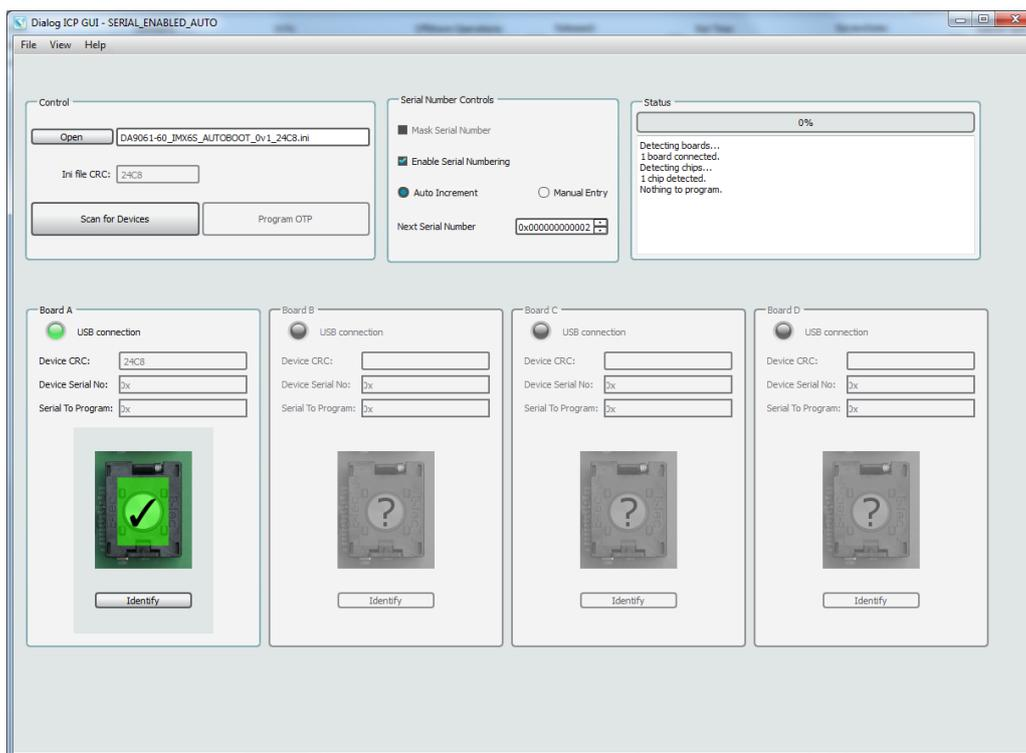

Figure 8: In-Circuit Programmer: Board A Programming Complete
- c. Press the Program OTP button. Programming completion is signified by a green tick (Figure 8)